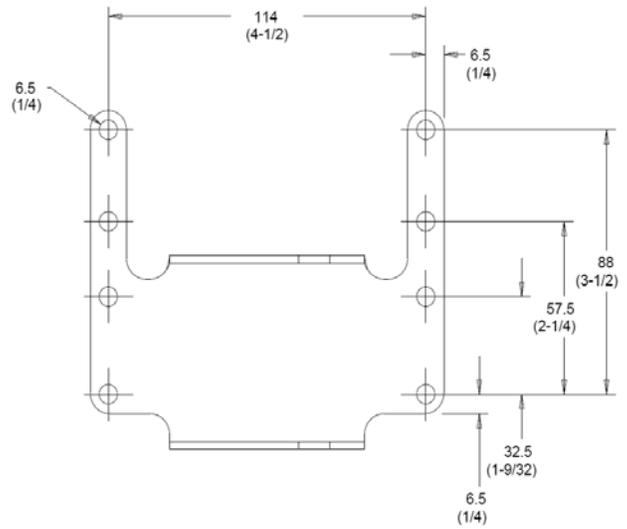

Figure 5: Hole Patterns in Mounting Brackets with Dimensions, mm (in.)
See Figure 5 for the hole mounting pattern of the mounting brackets. The hole pattern locates the actuator crankarm assembly with respect to the drive blade, jackshaft, or crankarm to be driven.
2. Use a center punch to mark the hole locations for the bracket in the duct or damper frame. See Figure 5.
4. Locate the actuator mounting holes that are located under the label at the \oplus symbol printed on the label, shown in Figure 5. Puncture the label with a sharp object to help start the thread forming screws.